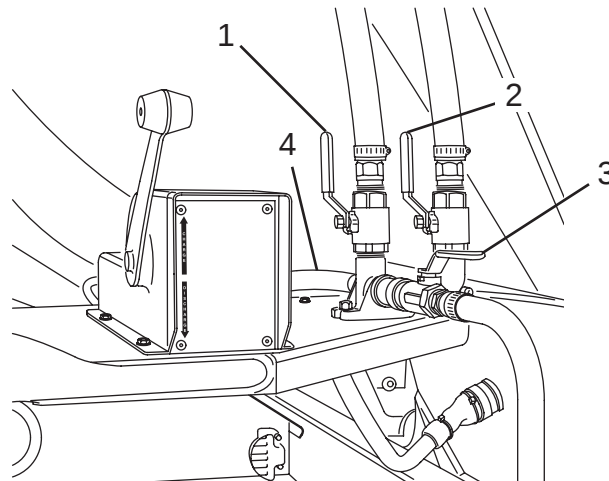

Figure 80
5. Open wash-out hose valve (Figure 80, Item 3) at the rear of the Mixer and allow water to drain.
6. Open drum wash-out valve (if equipped) (Figure 80, Item 1), and add-water valve (Figure 80, Item 2) and allow water to drain.
10. Close the drum wash-out valve (if equipped) (Figure 80, Item 1) and add-water valve (Figure 80, Item 2).
13. Open the drain petcock located at the lowest point in the supply hose (Figure 80, Item 4).